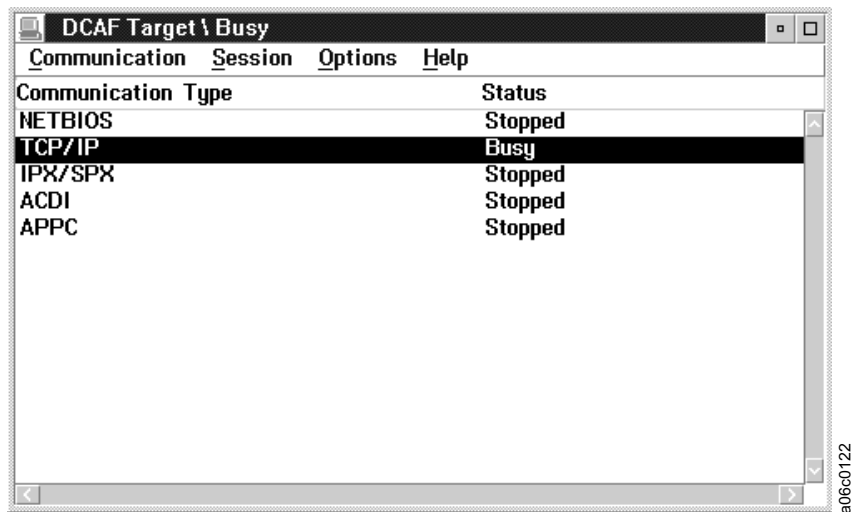

Figure 190. Changing Sessions
1. Press **Alt+T** on the Library Manager console. The DCAF Target \ Busy window (Figure 190 on page 314) opens and shows that the target is busy.
1. If you have an active session, take control at the Library Manager by pressing **Alt+T**. The DCAF Target \ Busy window (Figure 190) opens.